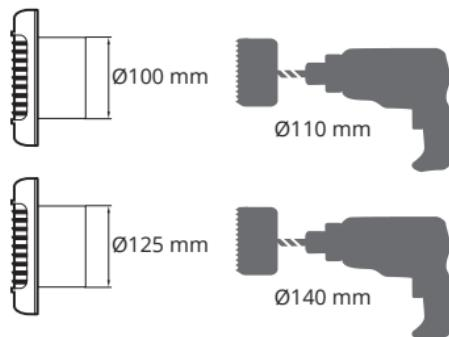

Fig. 1
1. Cut out a hole that is slightly larger than the diameter of the fan. Recommended hole opening, see Fig. 1.